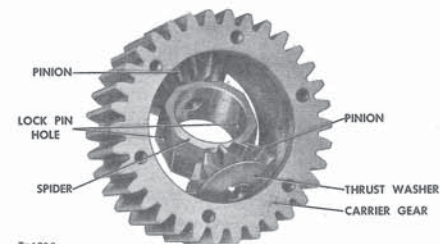

Fig. 54. Removing or Installing Pinions and Spider
pin. Pivot pinions and spider in carrier gear bore to remove pinions and spider (Figure 54).
**Assemble Differential.** Place spider, pinions, and thrust washers in their relative mounting positions and install this assembly in carrier gear bore with a pivoting action (See Figure 54). Install spider pin and secure in place with lock pin. Place side gears and thrust washers on each side of carrier gear and secure assembly with carriers and screws.